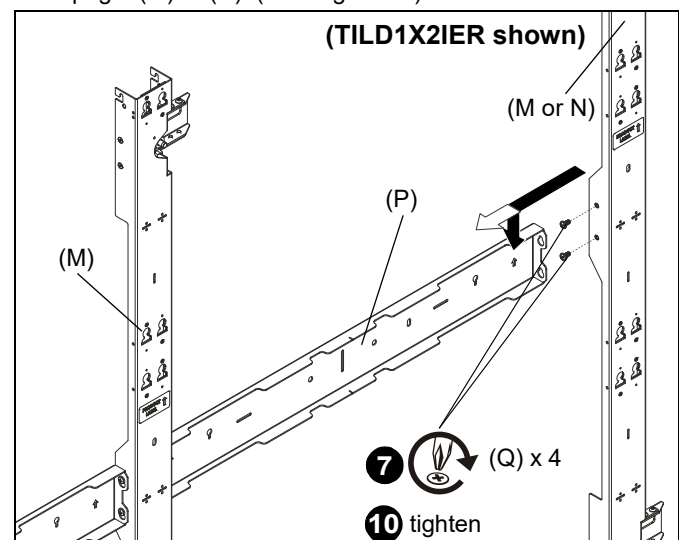

Figure 22
7. Partially install two 1/4-20 x 12" Phillips pan machine screws (F) into middle two holes on middle upright (M) or right upright (N). (See Figure 22)
8. Insert two partially installed screws (F) into holes on opposite side of spacer plate (P). (See Figure 22)
9. Lift upright until screwed are properly seated in keyhole mounting holes. (See Figure 22)
10. Tighten two screws to secure spacer plate to mounting upright (M) or (N). (See Figure 22)